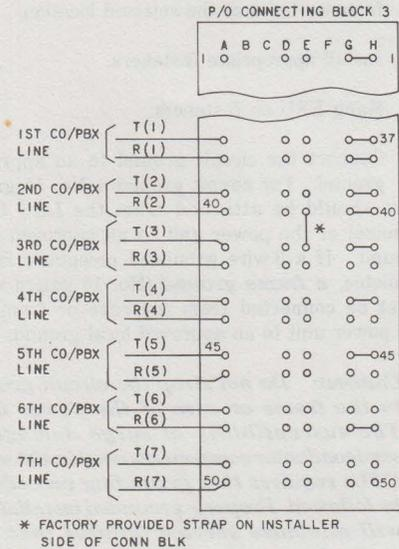

Fig. 24—Connections For Incoming CO/PBX Lines
- (6) Unlatch and open carrier assemblies.
- (7) Terminate the incoming CO/PBX lines on connecting block 3 as shown in Fig. 24.